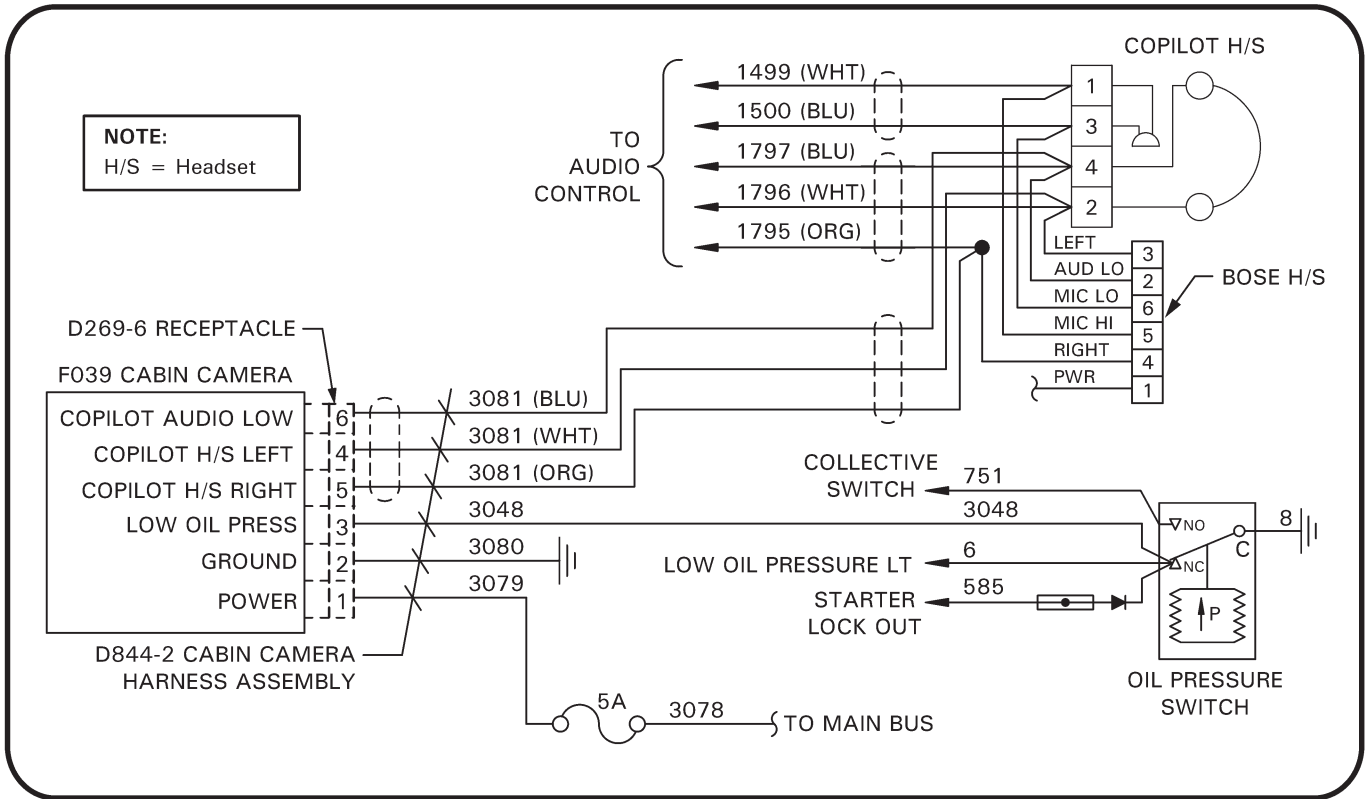

FIGURE 2 Wiring schematic
8. Refer to Figures 2 and 2A. Trim two 1/2 inch lengths of B158-3 heat shrink, and one 1 inch length of B158-2 heat shrink. Strip end of ORG, WHT, & BLU (-3081) wires.